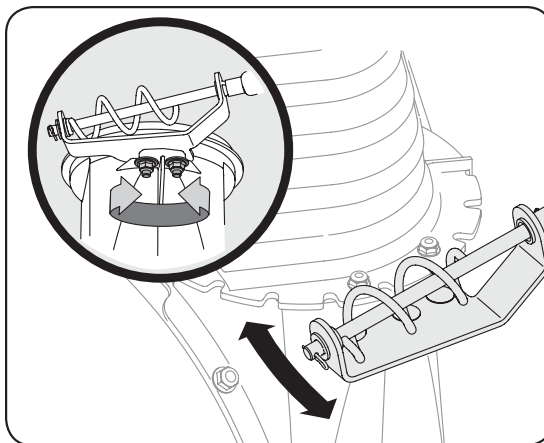

Figure 3-5
- Loosen but do not remove, the chute bracket in order to attach the chute assembly. See Figure 3-5.